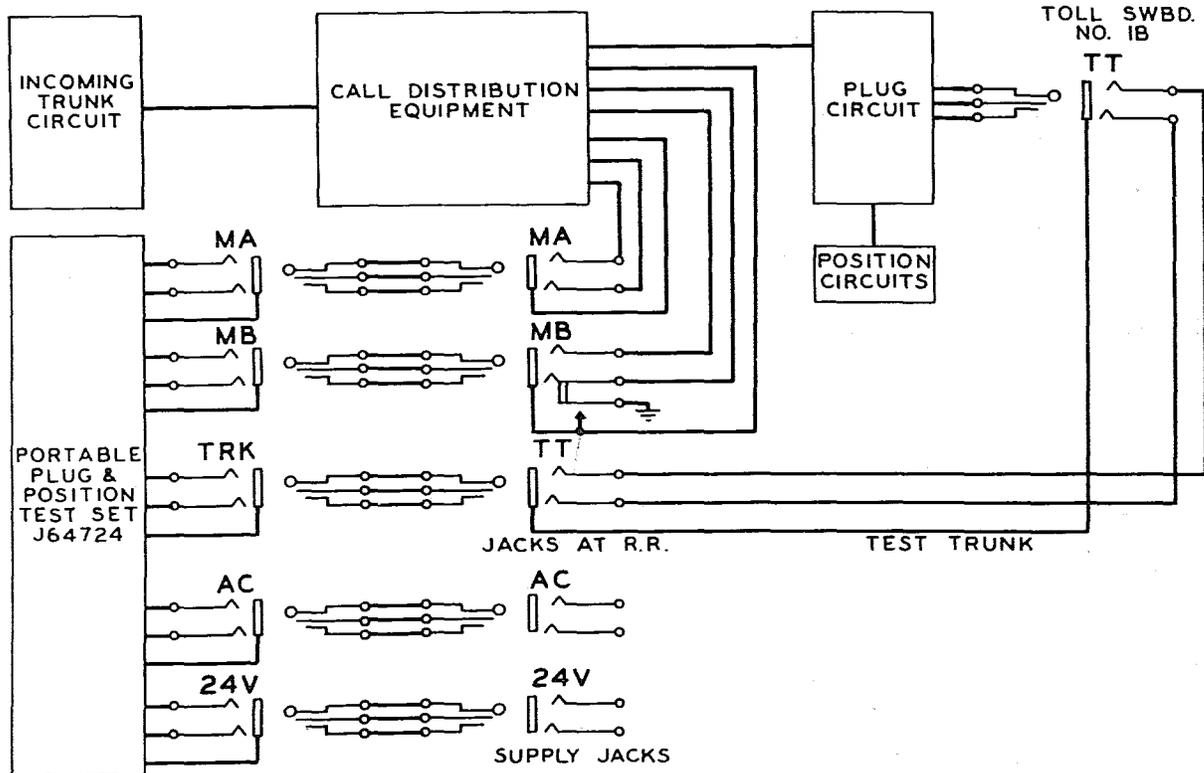

Fig. 3 - Test (D) - Plug and Position Circuits - Call Distribution
Test (D) - Plug and Position Circuits Associated with Call Distribution (See Fig. 3)